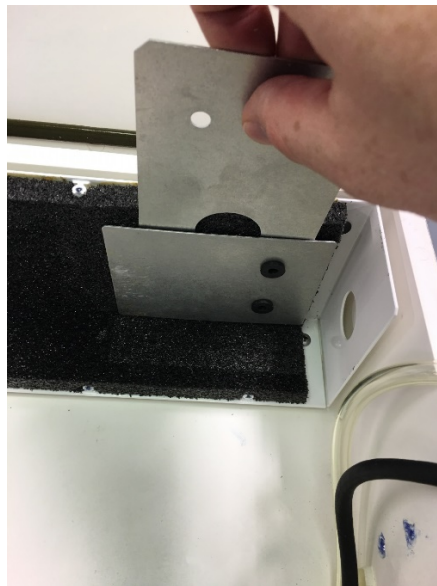

FIGURE H-5. Removal of original pump module inner plate and replacement with new inner plate provided in pump replacement kit (pn #33241)
6. Using the “notched” end of the new inner plate, slowly pry away the original inner plate working around all sides and being careful not to damage the foam backing (FIGURE H-5).